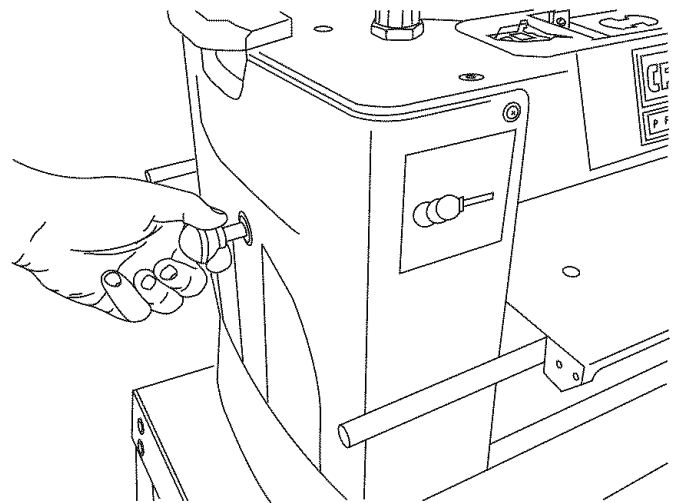

Figure 8 - Adjusting the Feed Rate
Refer to Figures 8 and 9.
- The handle for adjusting the feed rate is located on the left side of the planer/molder (see Figure 8).